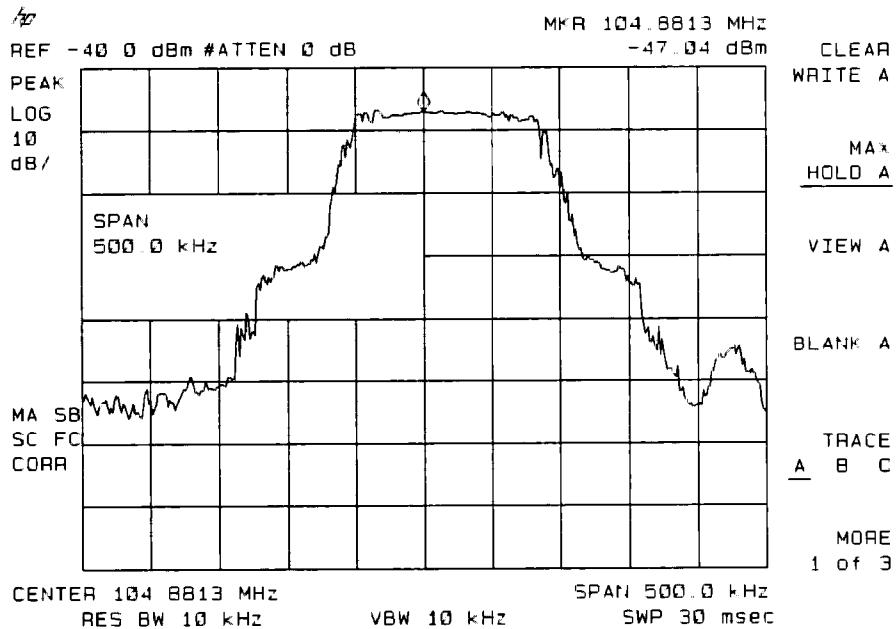

Figure 6-9. Viewing an Unstable Signal Using Max Hold A
5. To measure the excursion of the signal, press [TRACE], MAX HOLD A. As the signal varies, maximum hold maintains the maximum responses of the input signal, as shown in Figure 6-9.